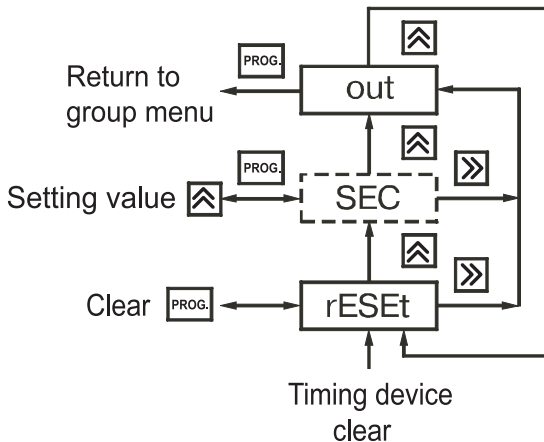

Figure 29.
6.1.12. «**t.rES**» group (figure 29) is used to reset timing device, for example in case of use of the instrument as the operating time counter.